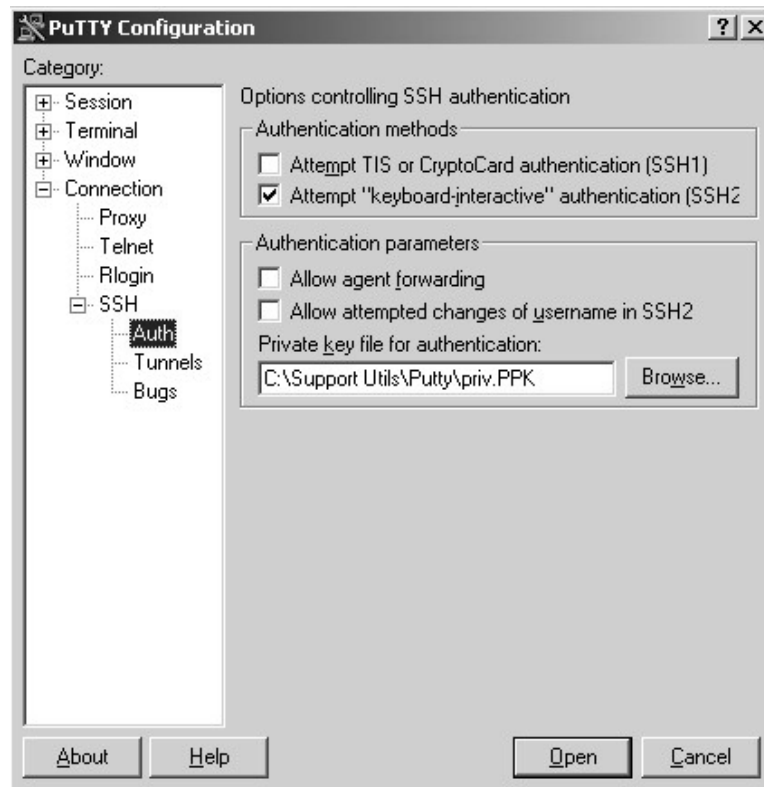

Figure 27. PuTTY Configuration panel—SSH authentication
6. Click **Auth**. The Options controlling SSH authentication panel is displayed. See Figure 27 on page 15.